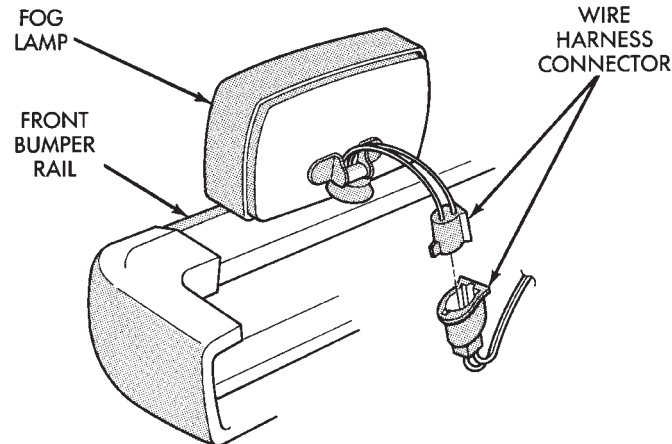

Fig. 1 Fog Lamp Wire Harness Connector
(2) If equipped, disconnect the fog lamp wire harness connectors (Fig. 1).